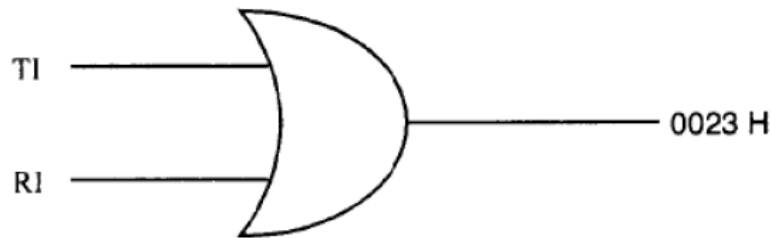

Fig.9. serial port interrupt
- Interrupt priority (IP) register determines the interrupt priority.
- The bit addressable IP register is shown in Fig.9. If the bit is 0, the corresponding interrupts has a lower priority, otherwise higher priority.